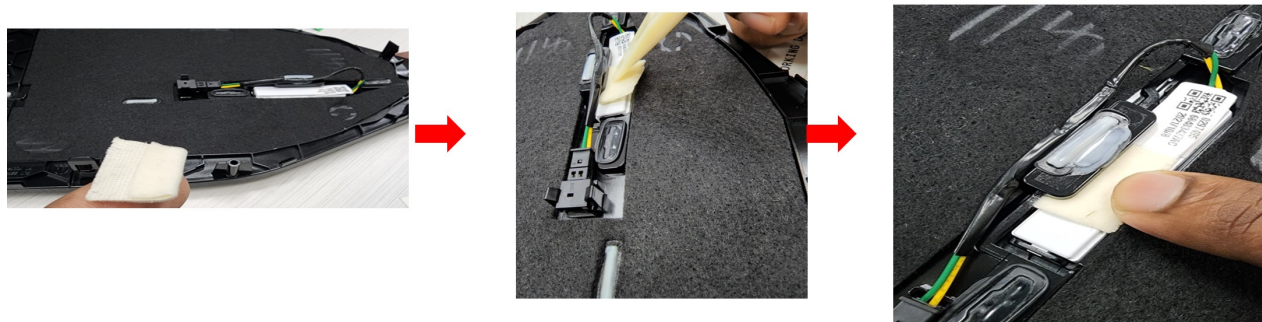

Fig. 1
- Fold the tape a third of the way leaving some of the sticky edge exposed (Fig. 1) .
- Tuck it under the light and plastic weld (Fig. 1) .
- After tucking in, press the sticky part of the tape to the light to secure it (Fig. 1) .